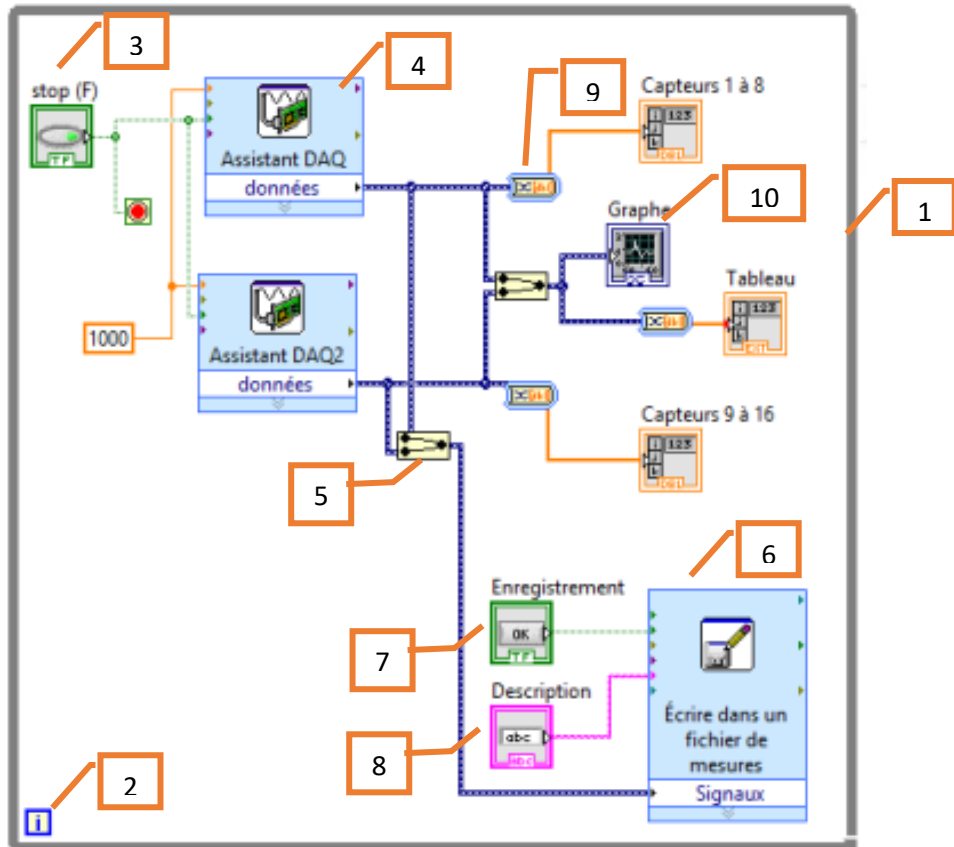

Figure 3 : Labview Program presented by Antony Plait
2.2.3 Explain the functions realized in the blocks with the numbers in Figure 3. Realization of a